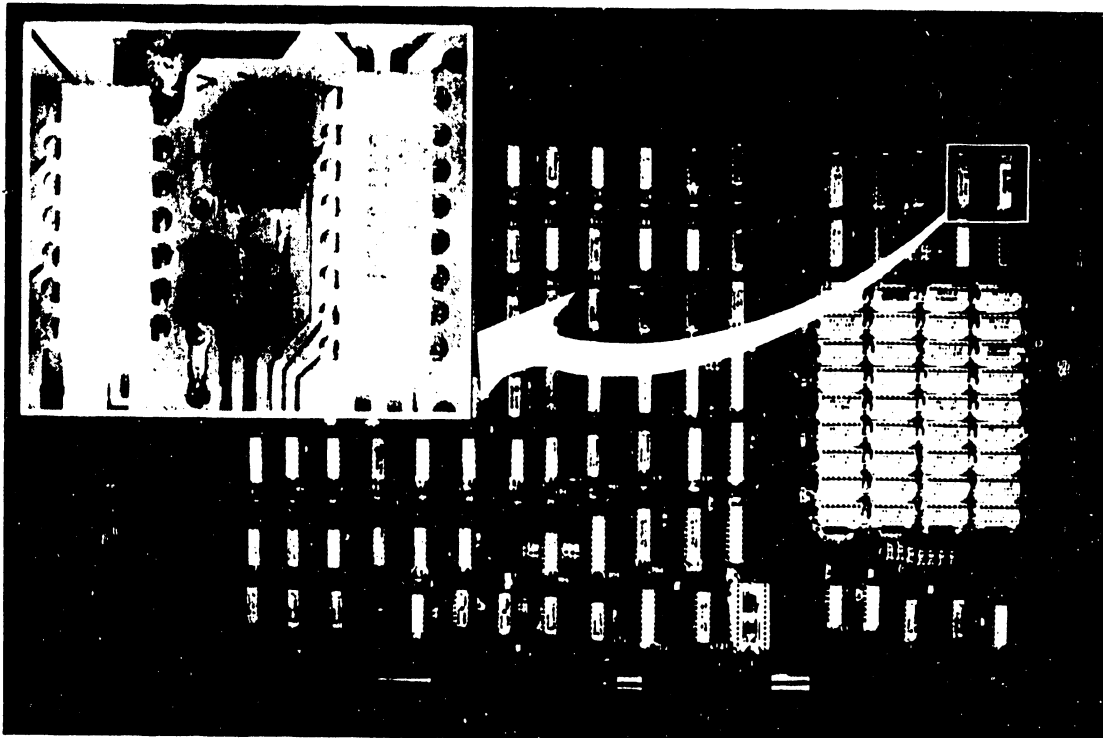
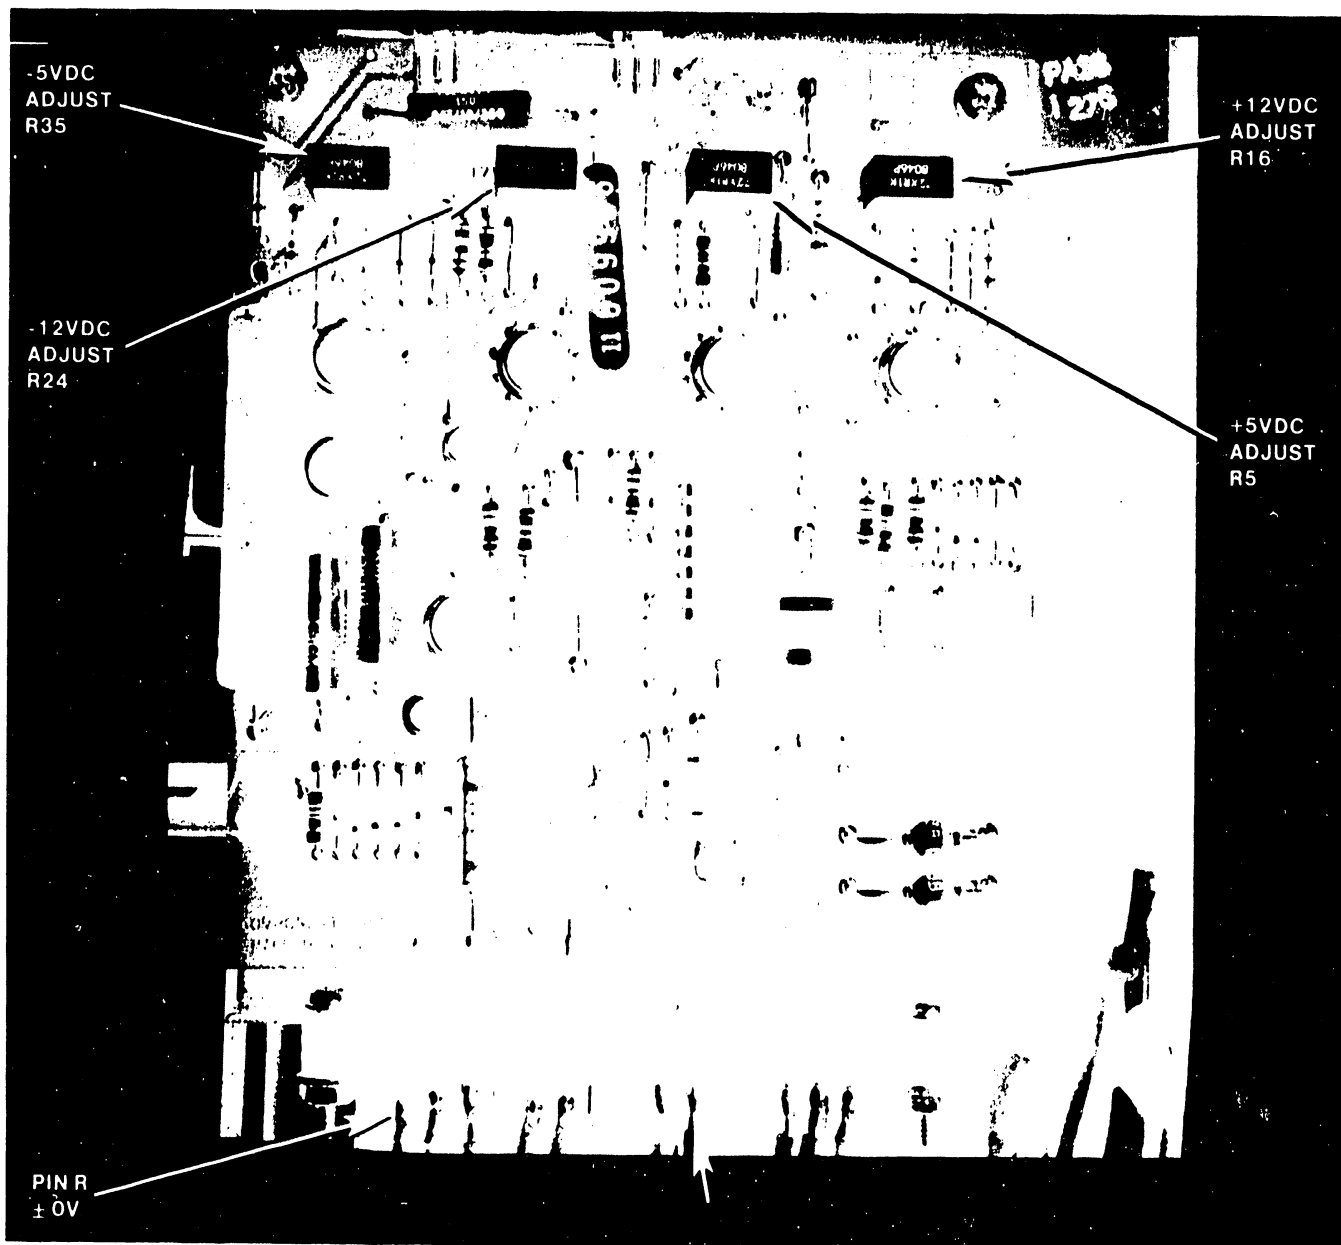
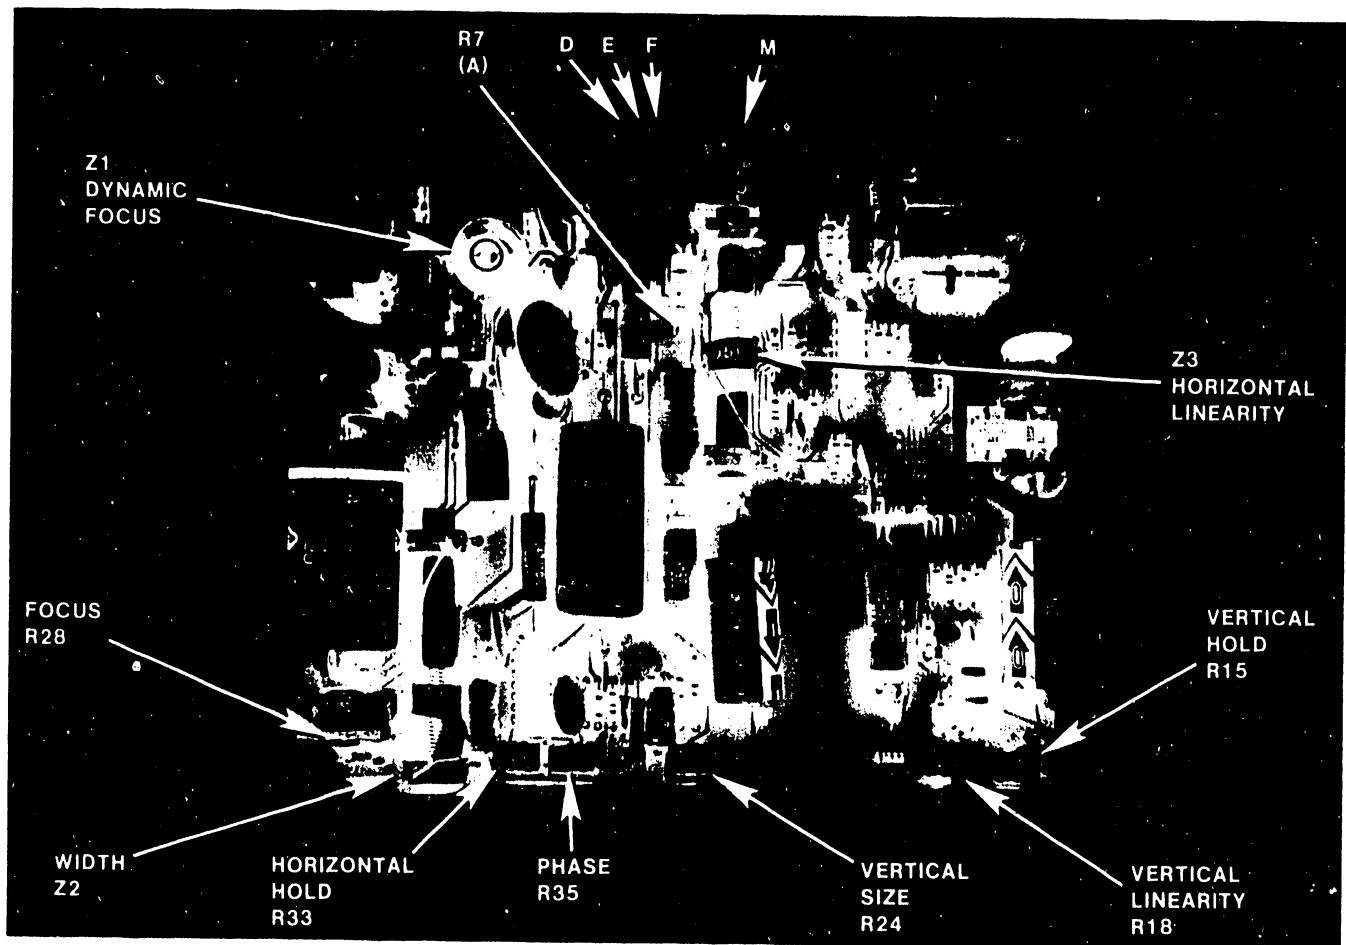

Figure 5-1. 210-7744 Voltage Test Points
Figure 5-2. 210-7656 Adjustment and Test Points
Figure 5-3. 210-7456 CRT Display Voltage Checks
Using a digital voltmeter, check the test points on PCA 210-7744 for +5 V, -5 V, and +12 V (figure 5-1), and on PCA 210-7656 or the cinch connector for -12 V (figure 5-2). Adjust the trimpots on regulator PCA 210-7656 (figure 5-2) if necessary. Use pin R for +0V reference. The power supply voltages should be within the ranges:
- o Adjust the +12 V regulated voltage to $+12\text{ V} \pm 0.2\text{ V}$ on PCA 210-7656 (figure 5-2). Use a DVM to check test point A on PCA 210-7456 with pin D, E, or F on the board (figure 5-3) and Ll-1 as $\pm 0\text{V}$ ground references.
- o Using pin M as a test point (figure 5-3), adjust the Dynamic Focus Coil (Z1) to register an amplitude of 250V AC peak-to-peak on an oscilloscope.
- o Create a document to display a full screen (80x24) filled with alternating characters "HO" (figure 5-3).